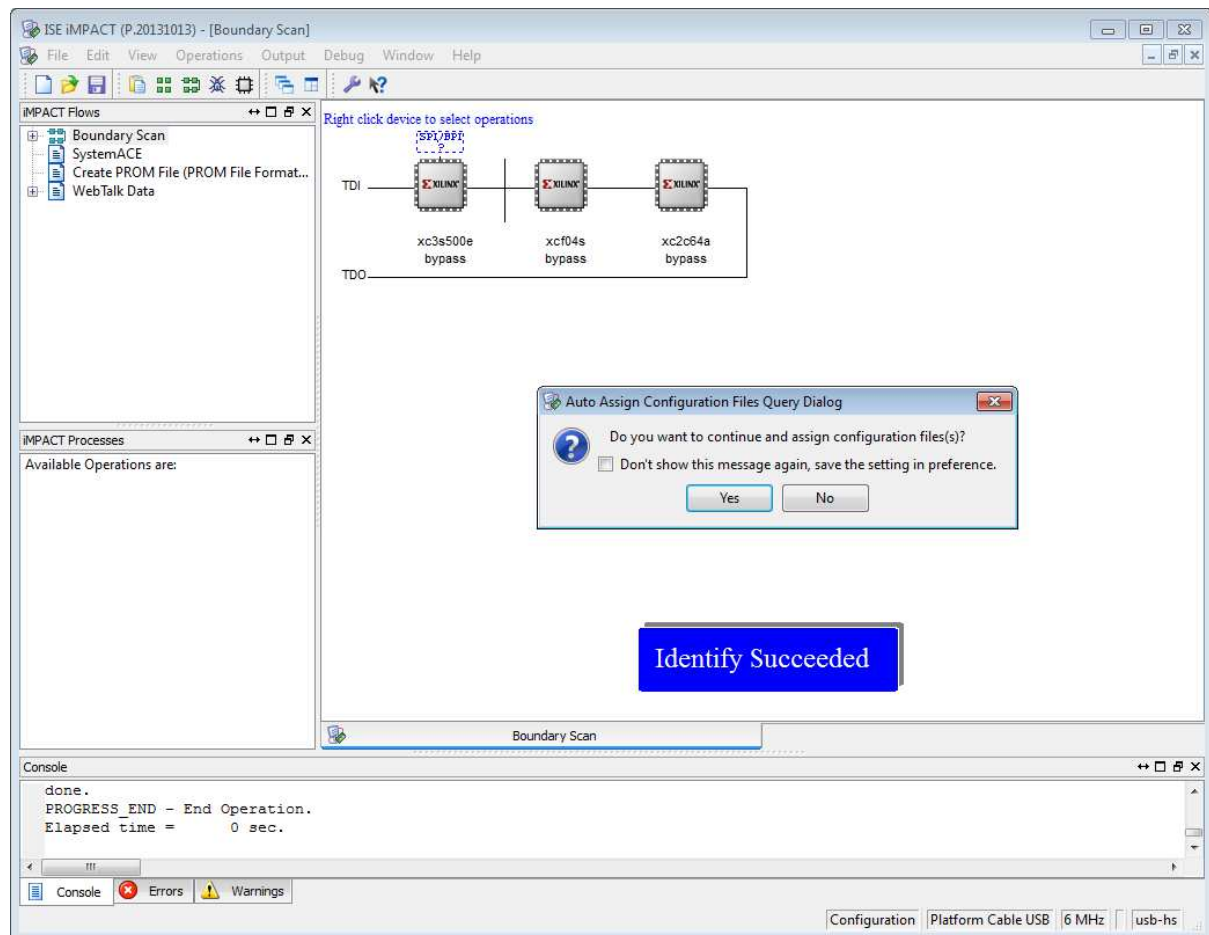

Figure 3.32: iMPACT window, assign configuration files.
- After a while, a picture of a “chain” should appear, along with the message **Identify Succeeded** in a blue box (Figure 3.32). The first chip, the **xc3s500e**, is the FPGA chip that we wish to program. The other two, **xc404s** and **xc2c64a**, are other chips on the board that will be bypassed.
A dialog box, asking “Do you wish to continue and select configuration file(s)?” will appear, as shown in Figure 3.32. Click **Yes**.